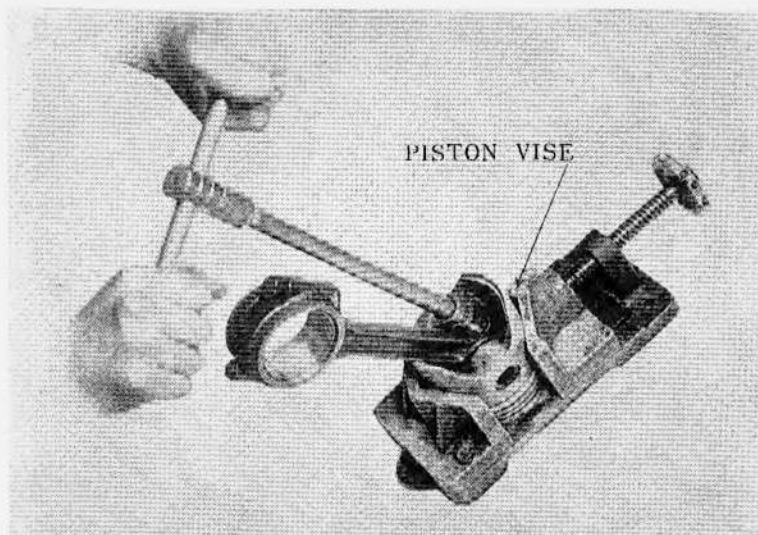

Figure 52 – Piston in Piston Vise
(37) Remove piston rings by expanding them and sliding them off the ends of the pistons.
(38) Clamp the piston in a piston vise (Fig. 52).